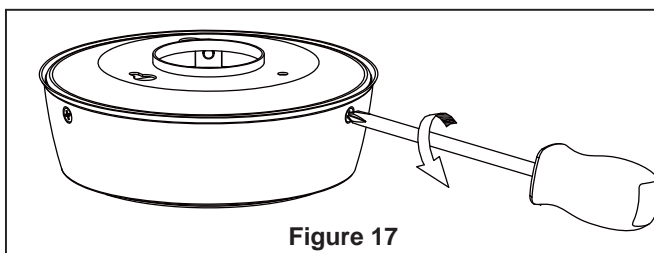

Figure 17
- ☐ 3. Disassemble the Switch Housing Cup Assembly by removing three screws. (Figure 17)